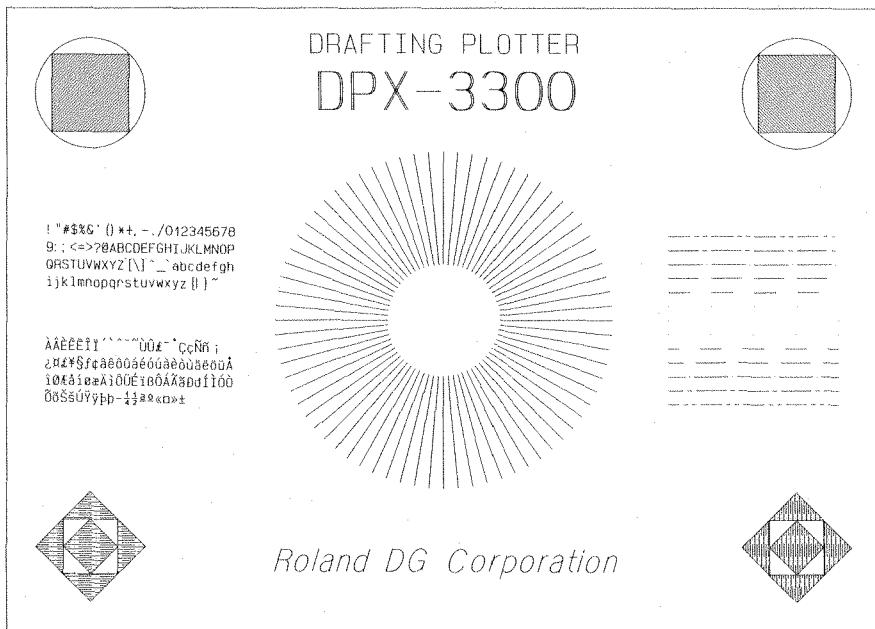

Fig. 2-15
- ⑤ Turn the power OFF temporarily.
- ⑥ While pressing the **[ENTER]** key of the control panel, turn the power ON. Remember: The **[ENTER]** key must be kept pressing until the "DOWN" LED ends flashing.
- ⑦ The DPX-3300 starts operating for the drawing of self test patterns. Make sure of the following points during and after drawing.
- 2) Drawing patterns appear as shown in Fig. 2-15 after the self test is completed.